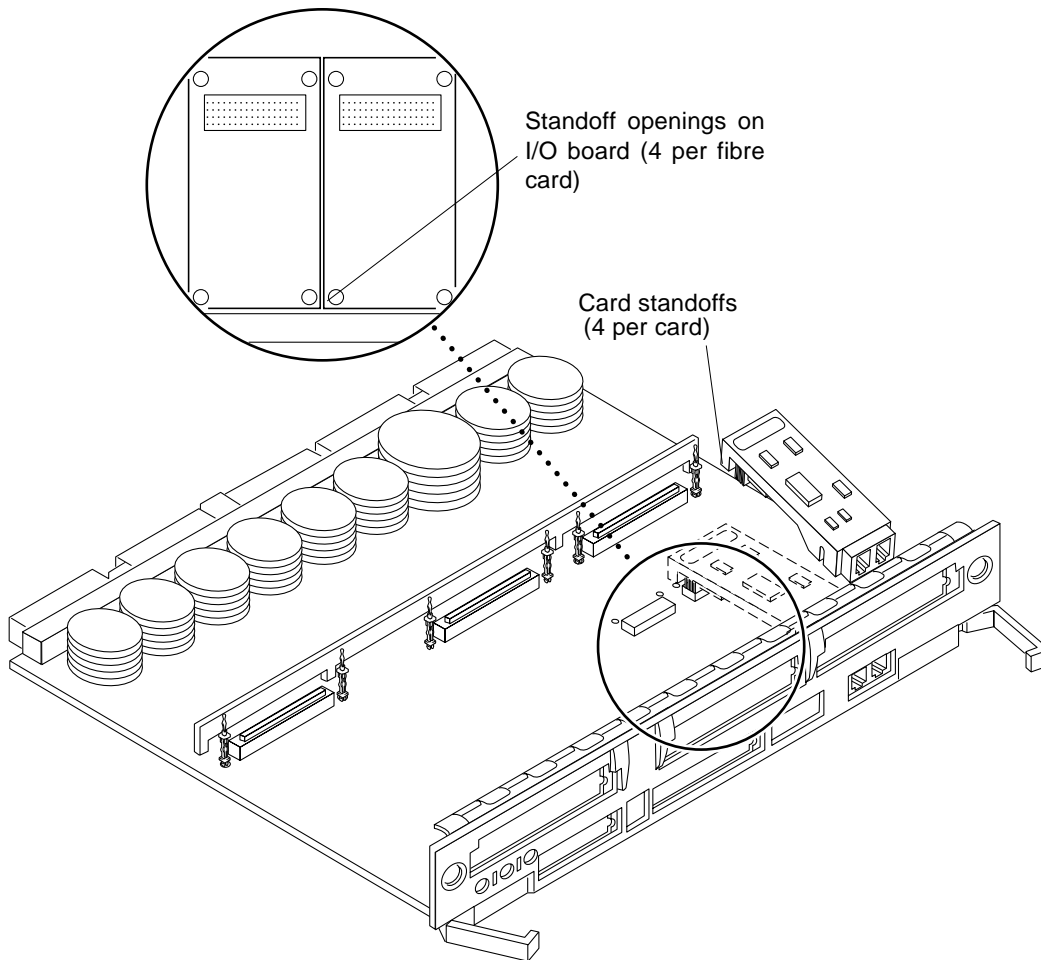

Figure 4-21 Removing or Installing A Fibre Card
You may have to remove the SBus cards over (or next to) this card in order to have enough room to hold onto the fibre card being removed. See Figure 4-21.
**Note** – There are four plastic standoffs located on the bottom of each card, two on each end. These secure the card once they are inserted into corresponding openings on the I/O board. See detail in Figure 4-21.
4. Once the card standoffs and connector are unseated, hold the card at a slight angle as shown in Figure 4-21 on page 4-28. Guide the card fiber connector end from the front panel opening on the I/O board.
**Note** – There are four plastic standoffs located on the bottom of each card, two on each end of the card. These secure the card once they are inserted into corresponding openings on the I/O board. See detail in Figure 4-21 on page 4-28.
See Figure 4-21 on page 4-28.